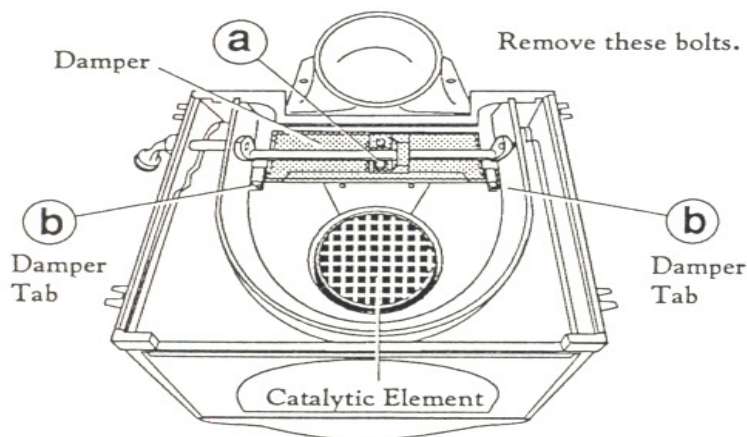

Fig. 5 Remove Damper
3. Remove both the nut and bolt (**a**) that secure the damper adjuster to the damper using a 7/16" socket or open-end wrench. The nut must be reached from inside the stove. Also, remove the two damper tab bolts and damper tabs (**b**), **Fig 5**. Remove the damper.